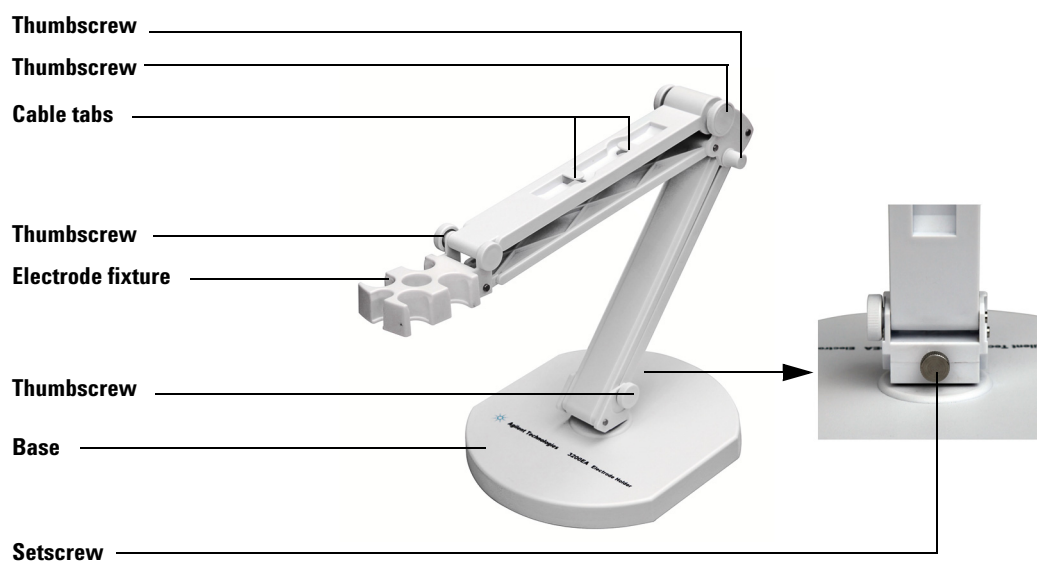

Figure 1 The electrode holder
- 1 Place the electrode holder near the meter and move the arm into position. Use the thumbscrews shown in Figure 1 to secure the arm in place.
- 2 Clip the DO (dissolved oxygen) probe into the electrode fixture shown in Figure 1.